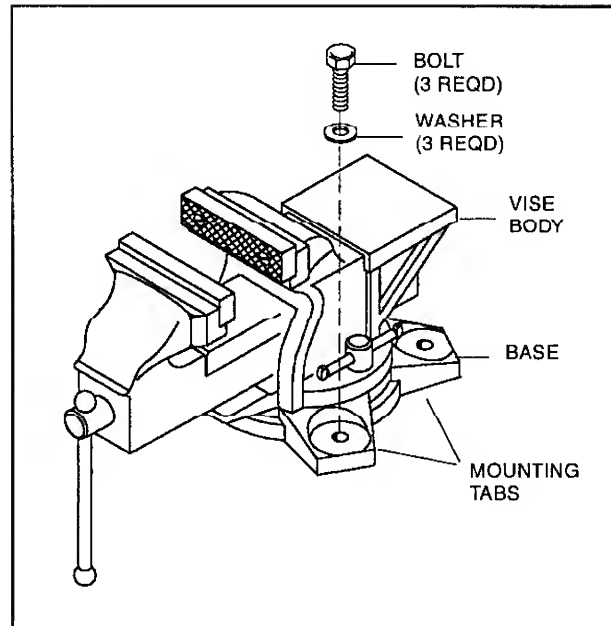

Figure 1. Mounting Vise to a Workbench
The Heavy Duty Vise has three mounting holes on the base (see Figure 1) for mounting to a workbench. Heavy duty hardware must be used to secure the vise to the workbench. Make sure that the vise mounting bolts are tight and that the vise is secure before use.
- Step 5. Insert bolts into the mounting tabs and through the workbench as shown in Figure 1.
- Step 6. Mount the vise to the workbench as shown in Figure 1.